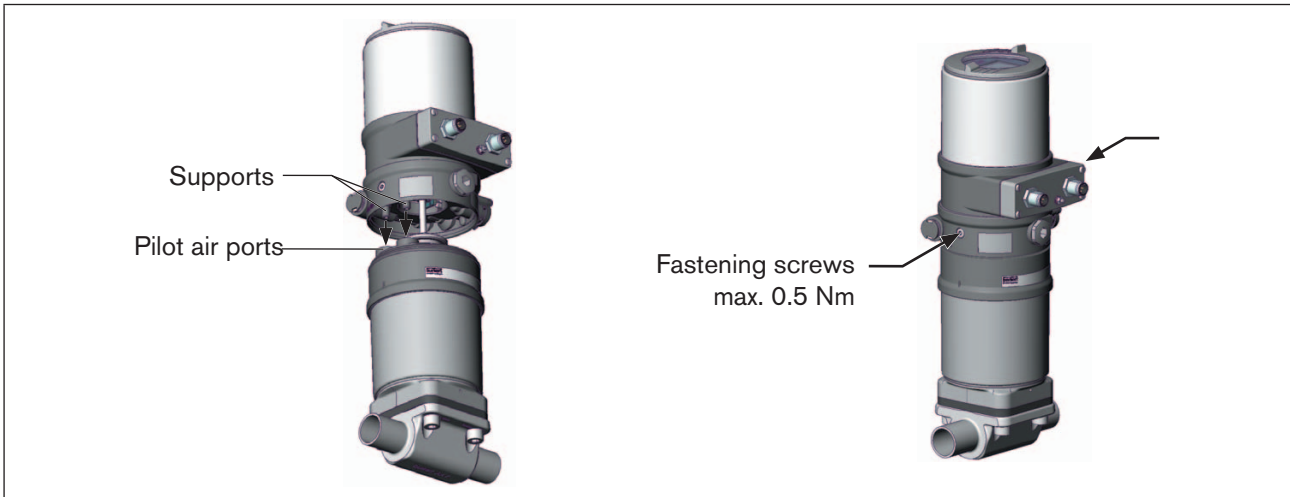

Figure 18: Installation of positioner, series 2103, 2300 and 2301
2. the supports of the positioner can be inserted into the pilot air ports of the actuator (see also “Figure 18”).